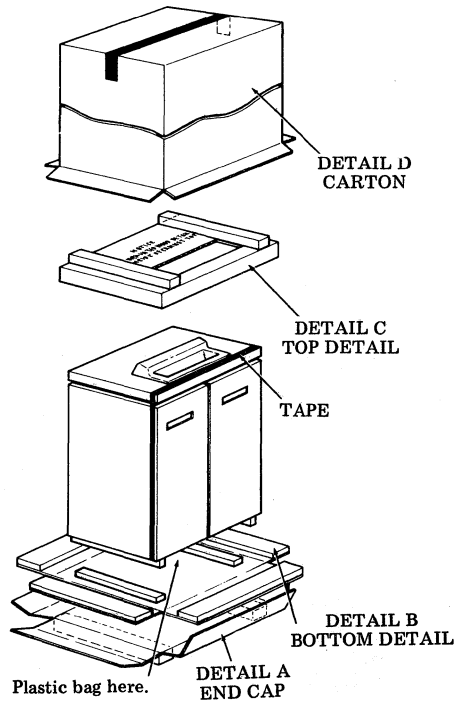

Fig. 12—Forms Access Printer Cabinet Carton Lifted Up
- 3.13 Lift carton up and off of forms access printer cabinet. Remove plastic bag covering cabinet. Remove tape, packing details A, B, C and D and plastic bag from bottom of cabinet (Fig. 12).